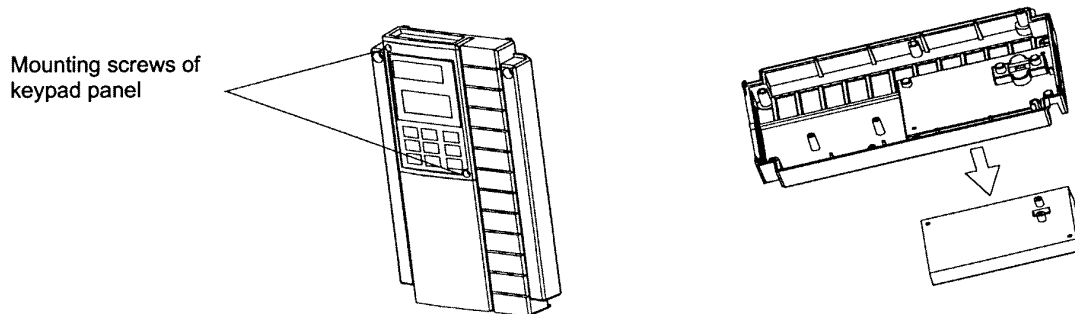

Fig. 1-3-3 Removing the keypad panel
(2) Removing the keypad panel
After removing the surface cover as explained in (1), loosen the mounting screws of the keypad panel and remove as shown in Figure 1.3.3.